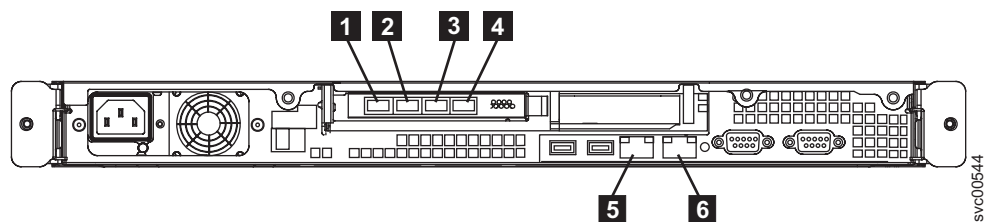

Figure 32. SAN Volume Controller 2145-8A4 Ethernet and fibre-channel connectors
1. Connect the Ethernet cables to Ethernet port 1 **5** and to Ethernet port 2 **6** in Figure 32.